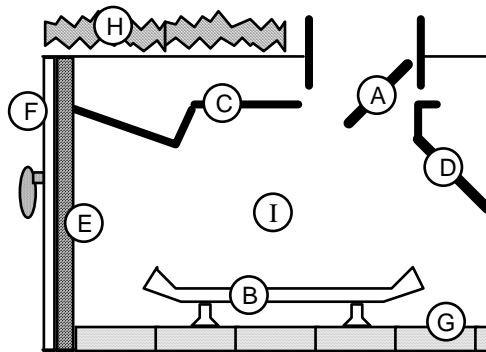

Figure 4
- The damper ("A") and grate ("B") must be removed (see Figure 4). The smoke shelf ("C"), internal baffles ("D"), screen ("E"), and metal or glass doors ("F") may be removed (if applicable). The masonry lining (masonry sides, floor, etc. - "G"), insulation ("H"), and any structured rigid frame members (metal sides, floor, door frame, face of the fireplace etc. - "I") may not be removed or altered.